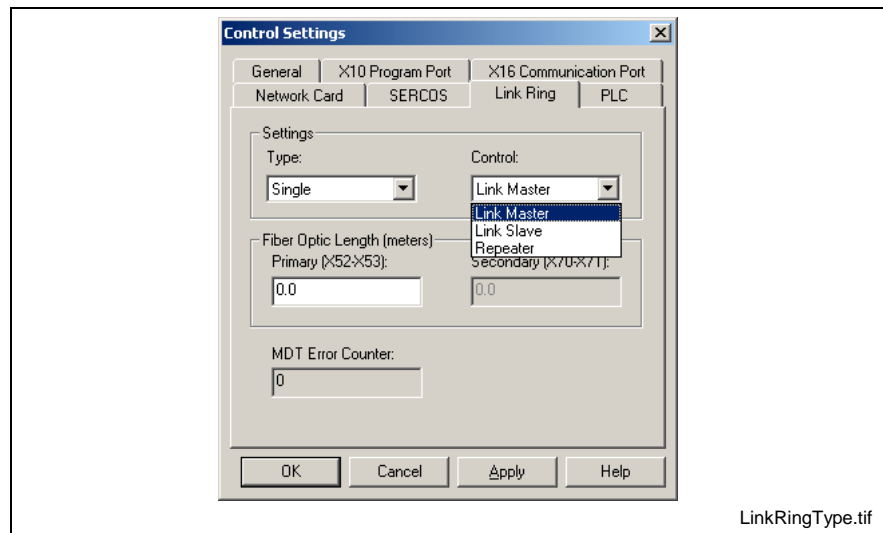

Fig. 11-8: Link Ring Control Type
2. In the *Link Ring* Tab of the *Control Settings* window, set the Link Ring type (single or double) and the control type (master slave, or repeater), see Fig. 11-8.